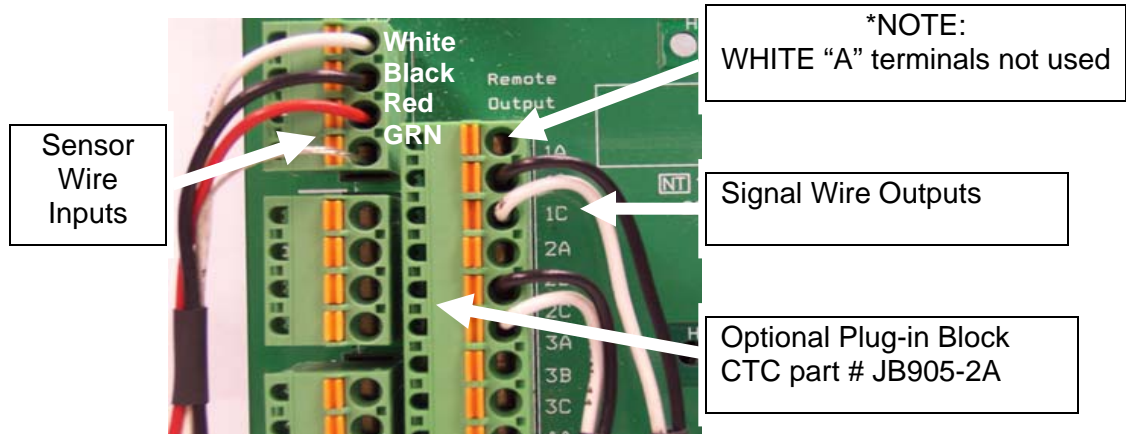

Figure 9A. Optional Plug-in Block #JB905-2A for Vibration and 4-20mA
Dual Vibration with 4-20mA output and Dynamic outputs: (Figure 9A)
- a. Socket A – Positive (+ WHITE) connection for the dynamic acceleration and would output on the BNC “J1” and the (2) pin MIL output connectors.
- c. Socket C – Positive (+ RED) connection for the 4-20mA signal, and would output to the BNC “J2”, (not used in this application). This setup requires optional (12) position plug in block (CTC #JB905-2A) to wire LP series sensor to the PLC/DCS system. The PLC/DCS system then provides the power for the loop in this setup, using CTC’s LP series sensors. (Figure 9A)